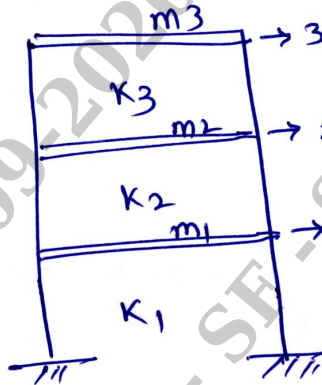

Fig.Q6
- 6 For a three storeyed shear building as shown in Fig.Q6 computes the natural frequencies, natural periods and mode shapes. Plot the mode shapes. Neglect axial deformations in all structural elements. Given the mass and stiffness of each floor are mass of floor; $M_1 = 2 \times 10^3$ kg, $M_2 = 1.5 \times 10^3$ kg, $M_3 = 1 \times 10^3$ kg stiffness of floor; $K_1 = 3 \times 10^6$ N/m, $K_2 = K_3 = 4 \times 10^6$ N/m.